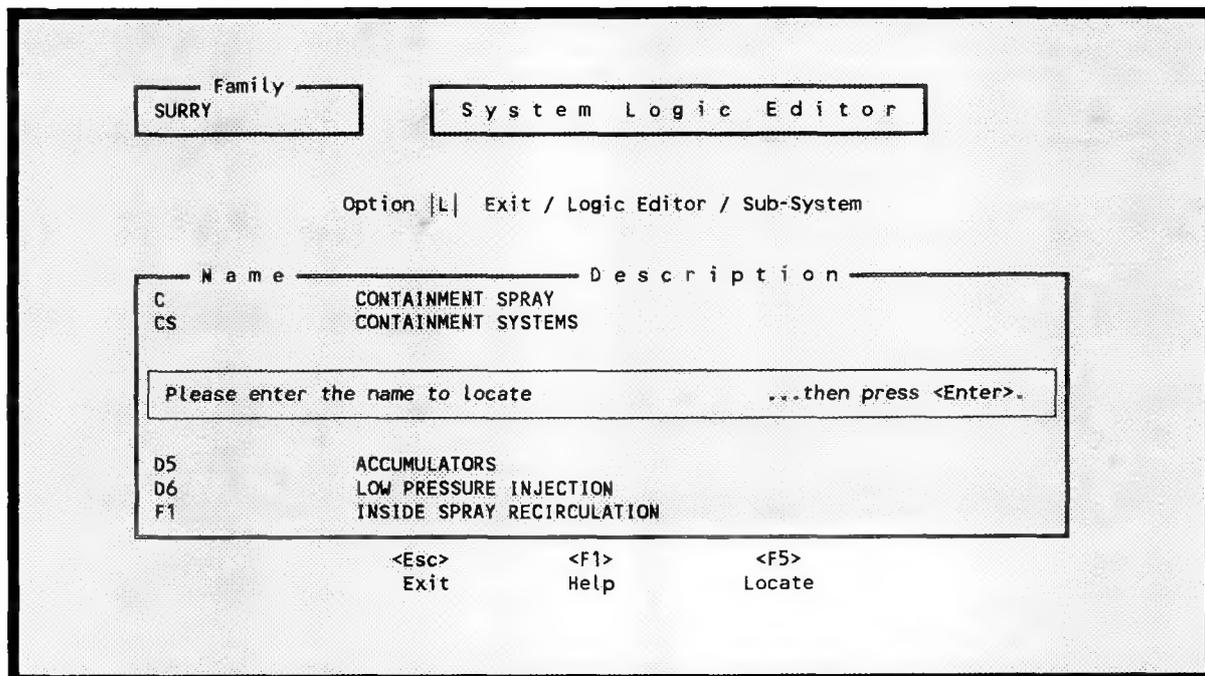

Figure 114. Locate system/subsystem using <F5>.
- <F5> Locates a specific system. When you invoke this option, a screen similar to the one shown in Figure 114 will be displayed. Enter the system name you wish to locate and press <Enter>. If the system exists, it will be highlighted on the display.